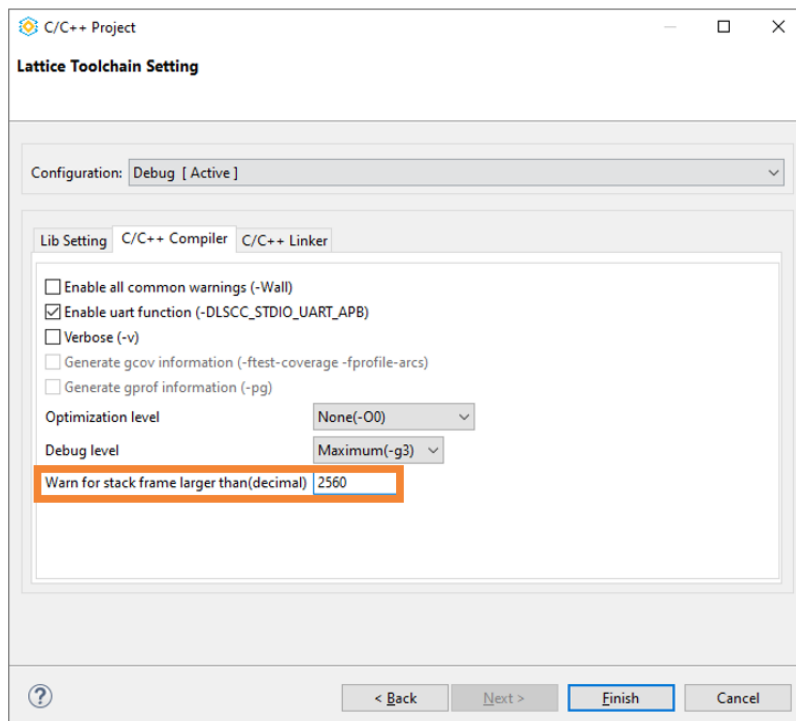

Figure G.6. Toolchain Setting GUI 2
- For solution templates and special templates, such as the CXU template, the **Warn for stack frame larger than** item in the **Lattice Toolchain Setting** GUI can be enabled. To enable this stack overflow check function, fill in a decimal number in the text box for this item (Figure G.6). If you leave it at the default, this function is disabled. **Note:** The number you enter must equal STACK_SIZE in the linker.ld file.